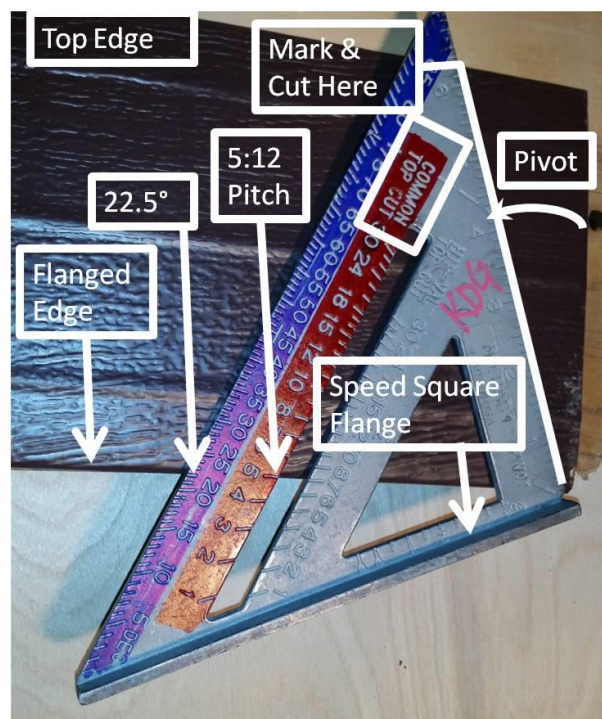

Figure 11-14. Marking Gable End Fascia Angle
8. Position the flange of a speed square along the soffit flange (or along the edge where the LONG point will be) as seen in Figure 11-14. With the square corner of the speed-square against the edge at the length desired, pivot the speed-square at the 90° corner until the "5" on the "Common/Top Cut" (red) scale is aligned with the same edge (e.g. flanged edge). Draw a line along the short edge of the speed square on the face of the fascia.